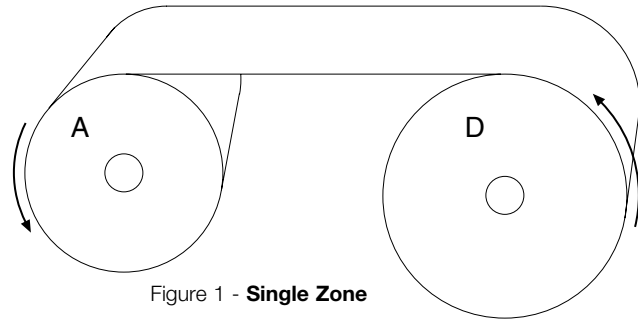

Figure 1 - Single Zone
Simple machines, such as rewinders or inspection machines, may have only one zone (see Fig. 1). The primary goal here is to control tension so that the rewind package is accurately wound. Typically, the winder (A) would be a simple line speed motor drive, with tension controlled by a brake system at the unwind (D). The method of brake control (i.e.: open or closed loop) would be determined by the accuracy demands of the application. For simple diameter compensation, an ultrasonic sensor measuring the diameter of the roll can produce satisfactory results. Greater accuracy may require closed loop feedback, such as from a dancer or load cell.